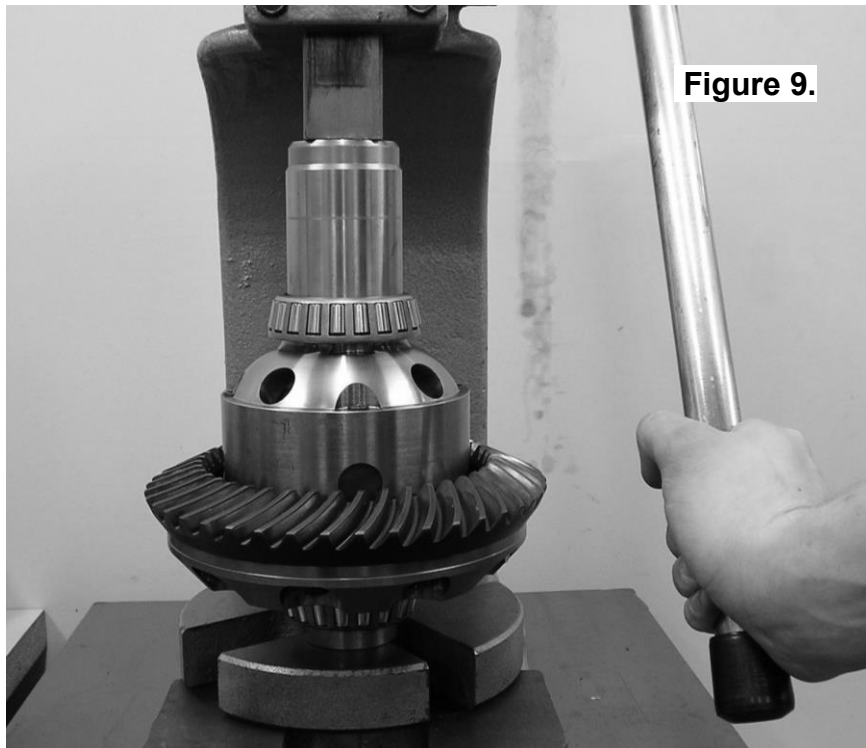

Figure 9.
- Apply a thin film of high pressure grease to the bearing journals of the *Air Locker*, then press the bearing cones onto the bearing journals as shown in Figure 9.